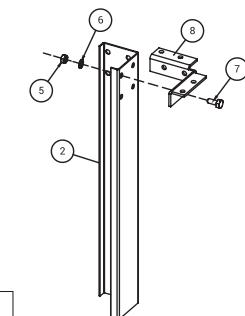
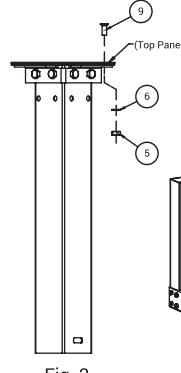
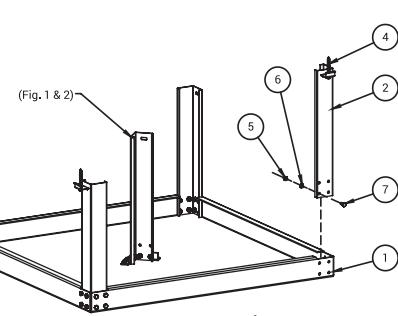

Fig. 1
Fig. 2
Fig. 3
Assemble leg (item 2), & attachment bracket (item 8), using included hex bolts (item 7), lock washers (item 6) & nut (item 5). See Fig 1. Assemble Fig 1. to the underside of square top, using included flat head screws (item 9), lock washers (item 6) & nut (item 5) See Fig 2. Place square top upside down on table or flat surface. Assemble four legs (item 2) to top corners using included hex bolts (item 7), lock washers (item 6) & nut (item 5). Tighten hardware securely. See Fig 3.